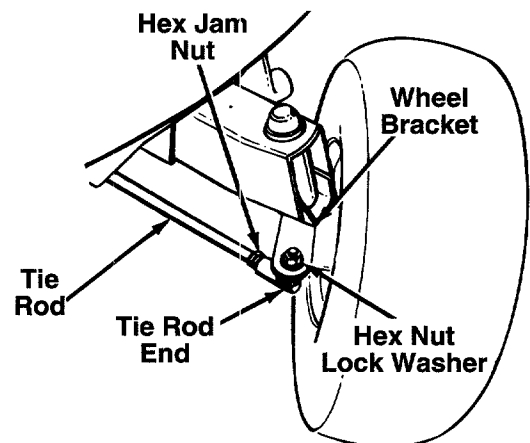

FIGURE 17.
1. Remove the hex nut and lock washer, and drop the tie rod end from the axle bracket. See figure 17.